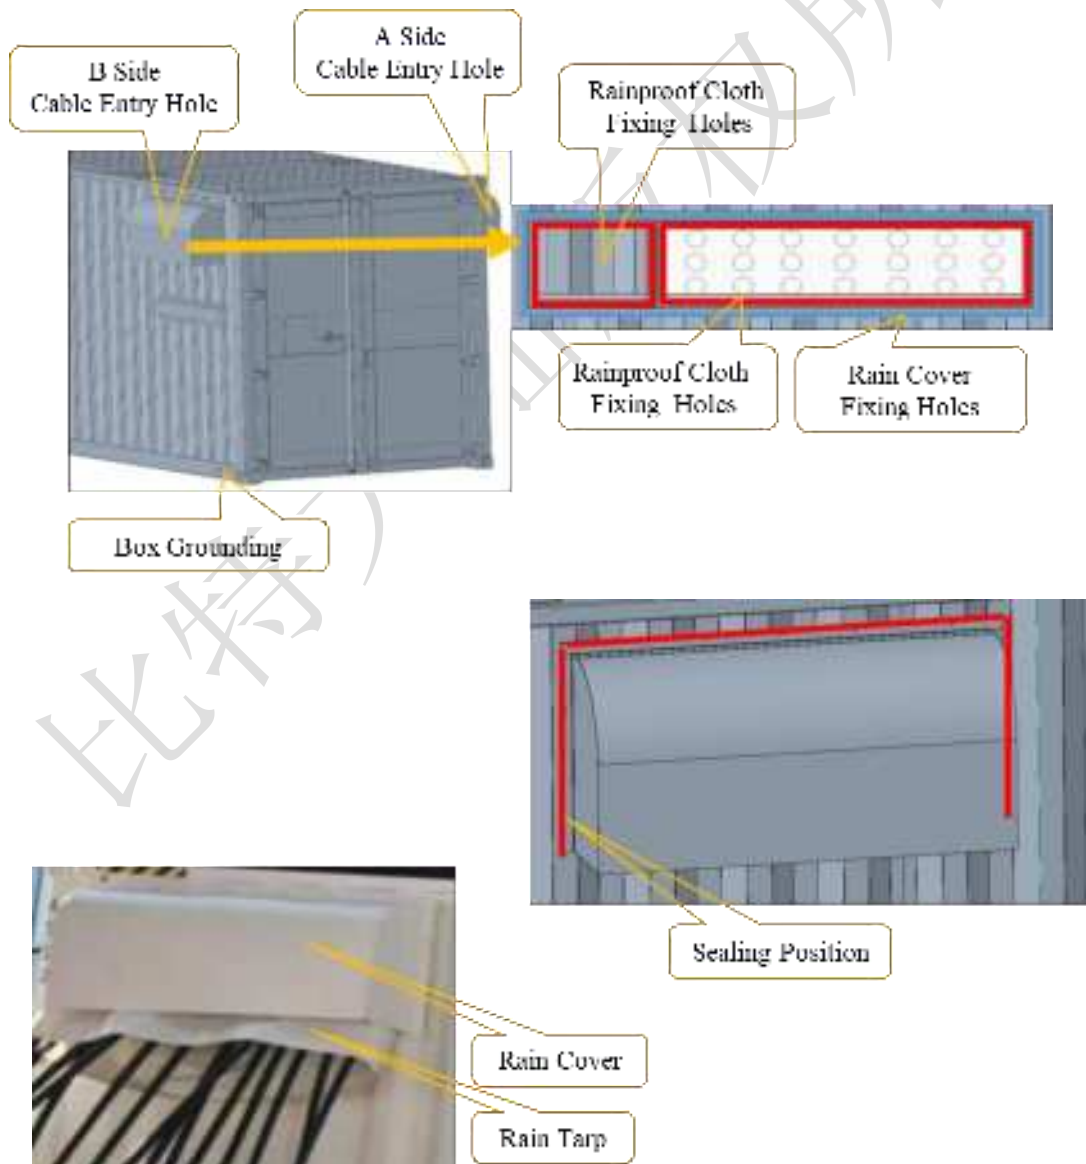

Figure 6.6 Cable Entry Hole Level Rain Sheet Installation Location
- a) Cable line respectively from the container on both sides of the feeder aperture access, access before the need to install a good rain cover, rain cloth, etc., in order to further prevent rainwater from the connection into the container after the rain cover, in the rain cover at the seams into the line sealing treatment, after the installation of a good rain cover. Specific location see Figure 6.6, where the cable from the top of the two distribution cabinets junction box access, has been extended to the corresponding copper rows, with screws installed and fixed!